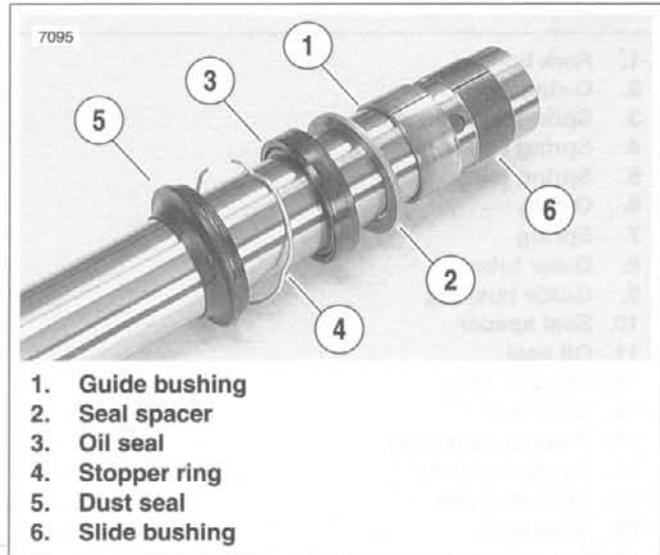

Figure 2-97. Slide Pipe Components
- Remove the dust seal (13) and the stopper ring (12) from the outer tube (8).
- Pull the slide pipe (17) out of the outer tube (8).
- See Figure 2-97. Remove the guide bushing (1), seal spacer (2), oil seal (3) stopper ring (4), and the dust seal (5) from the slide pipe.
- Remove the slide bushing (6) by prying the slide bushing at the split.
- See Figure 2-97. Install a **new** dust seal (5) and stopper ring (4) onto the slide pipe.
- Coat the sealing lips of the **new** oil seal (3) with fork oil or sealing grease and install onto the slide pipe with its marked side facing the dust seal (5). Remove the tape from the slide pipe end.
- Install the seal spacer (2), the guide bushing (1) and the slide bushing (6) onto the slide pipe.
- Coat the slide bushing (6) and the guide bushing (1) with fork oil.